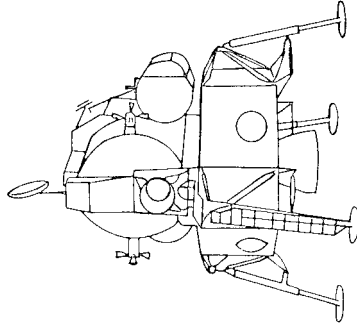

Figure 9.2a
9.2 Figure 9.2a shows the Lunar Excursion Module from the Apollo project. Consider the module hovering a short distance above the surface of the moon using its main engine. If the pitch angle of the module (angle between the vertical line and the direction of movement) differs from zero, a horizontal component of the force is obtained and the module is accelerating along the surface.